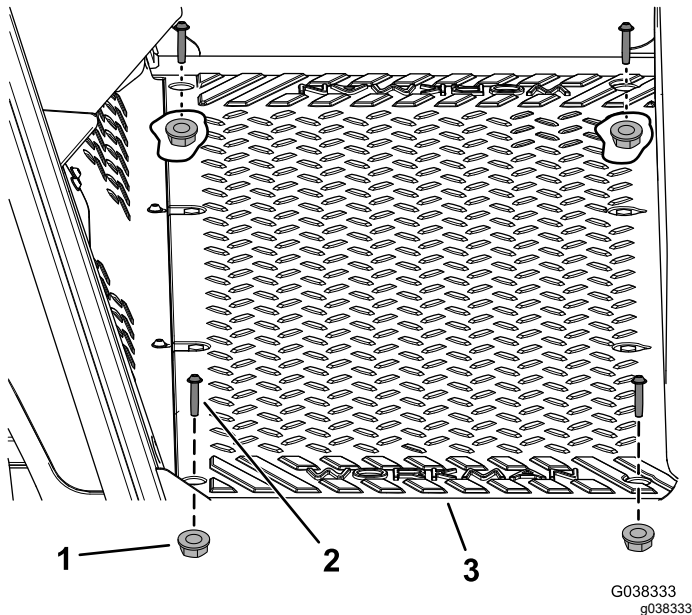

Figure 2
1. Remove the 4 screws (1/4 x 1-1/4 inches) and 4 nuts (1/4 inch) from the floor plate (Figure 2).
7. Install the previously removed 4 screws (1/4 x 1-1/4 inches) and 4 nuts (1/4 inch) into the floor plate (Figure 2).